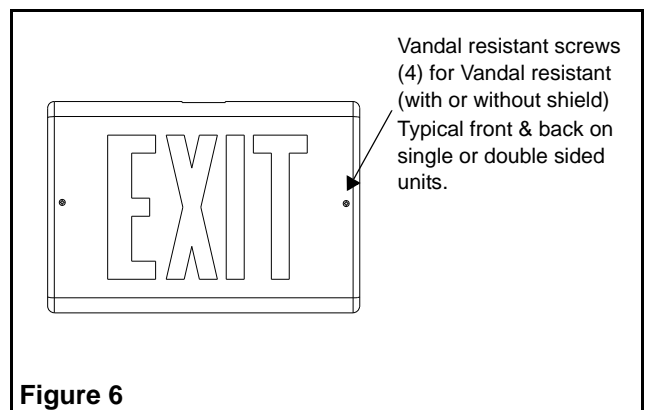

Figure 6
6. For units with vandal resistant options, refer to fig. 6.